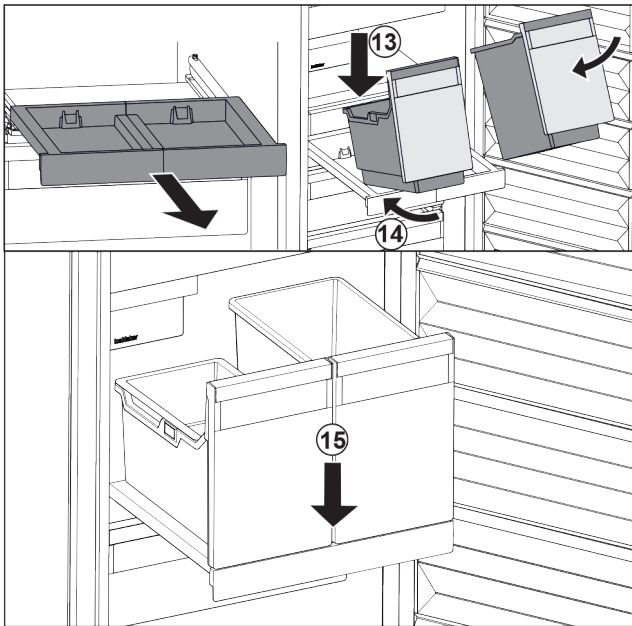

Fig. 101
- ▶ Place the container at an angle on the pull-out board. Fig. 101 (13)
- ▶ Slide the container to the back at an angle. Fig. 101 (14)
- ▶ Place container in the front. Fig. 101 (15)